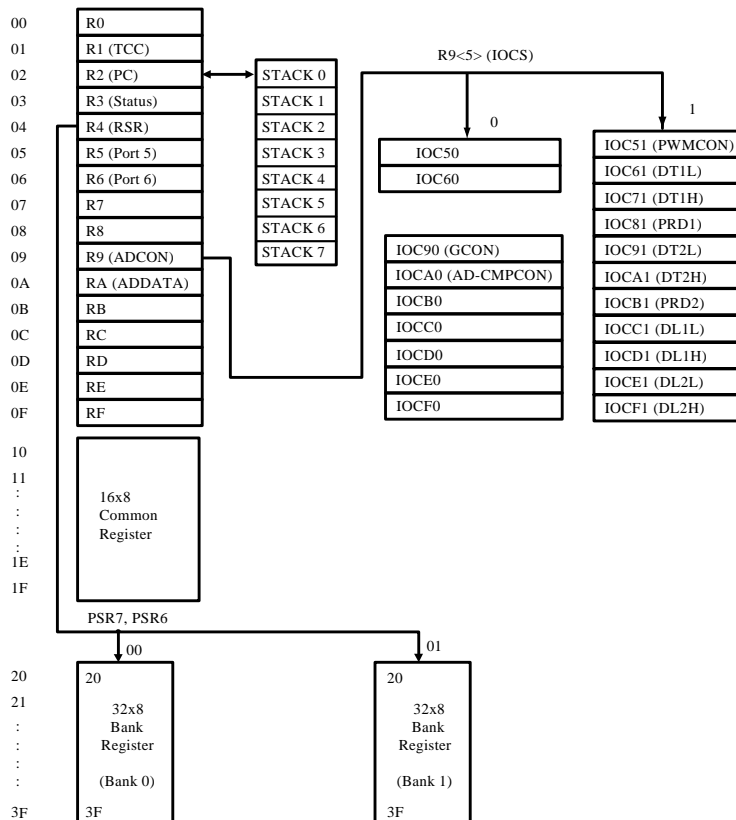

Fig. 4 Data memory configuration
- R2 and hardware stacks are 12-bit wide. The structure is depicted in Fig. 4.
- Bit 4 (T) Time-out bit. Set to 1 by the "SLEP" and "WDTC" commands, or during power-up and reset to 0 by WDT time-out.
- Bit 3 (P) Power-down bit. Set to 1 during power-on or by a "WDTC" command and reset to 0 by a "SLEP" command.
- Bit 2 (Z) Zero flag. Set to "1" if the result of an arithmetic or logic operation is zero.
- Bit 1 (DC) Auxiliary carry flag.
- Bit 0 (C) Carry flag.
- See the configuration of the data memory in Fig. 4.